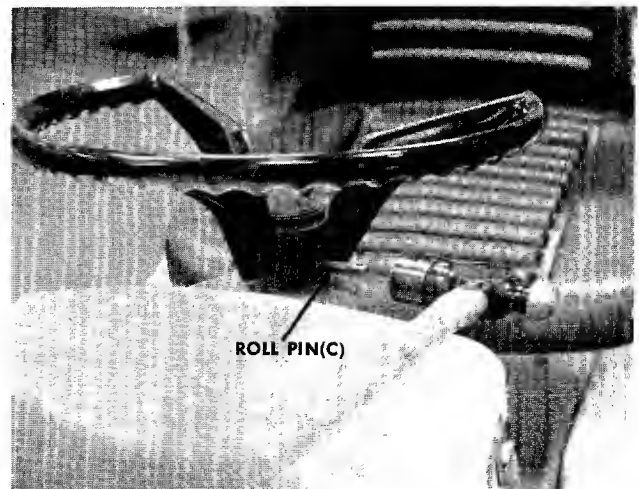

FIGURE 2. STEERING WHEEL ASSEMBLY
Step 2. Assemble the steering wheel to the steering column, line up the hole and drive the roll pin (C) with a hammer. See figure 2.